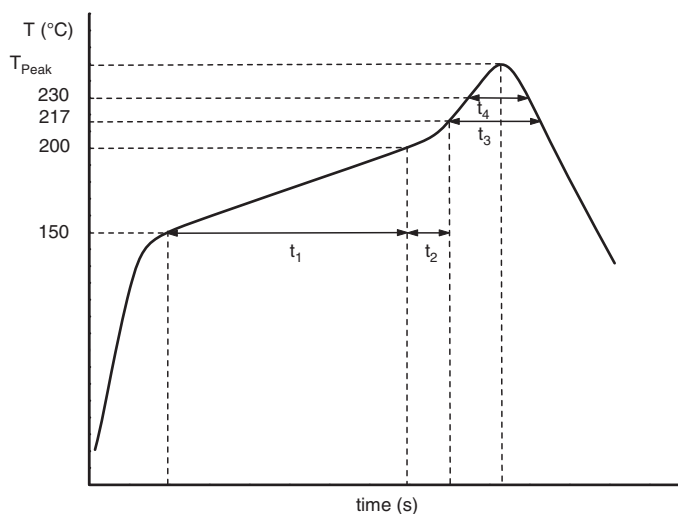

Fig.4 Maximum temperature load during reflow soldering
- ATTENTION: for maximum safe soldering conditions refer to Fig. 4
For maximum conditions refer to Fig.4.